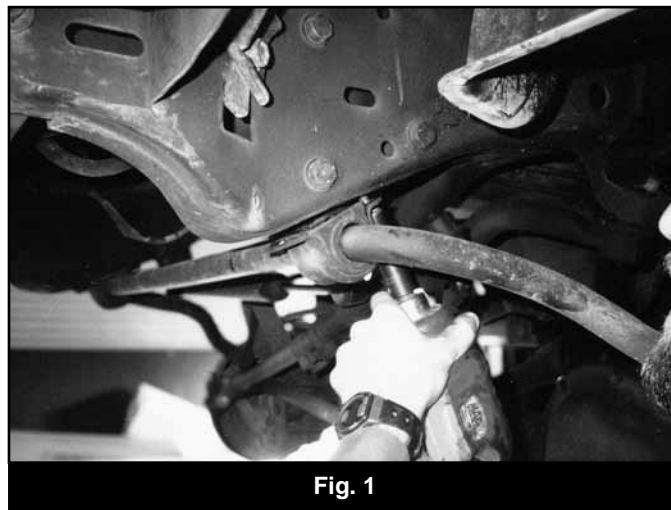

Fig. 1
6. Disconnect the sway bar at the frame side and lower out of the way. Disconnect the drag link from the pitman arm. (Fig. 1)